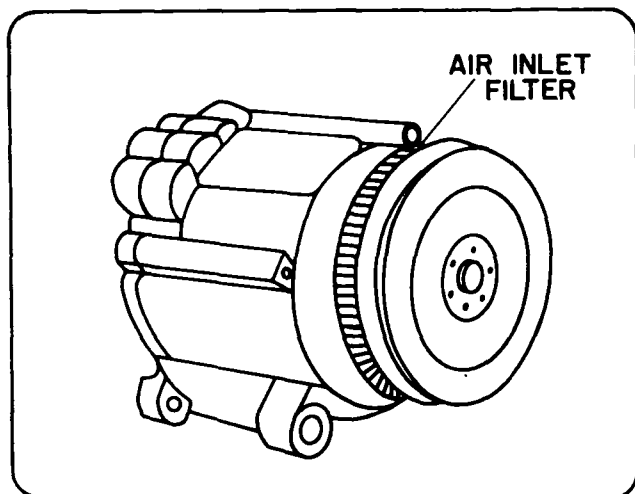

Figure 6-11
2. Figure 6-11 shows the centrifugal air filter on the air pump. List the necessary checks for this air filter.